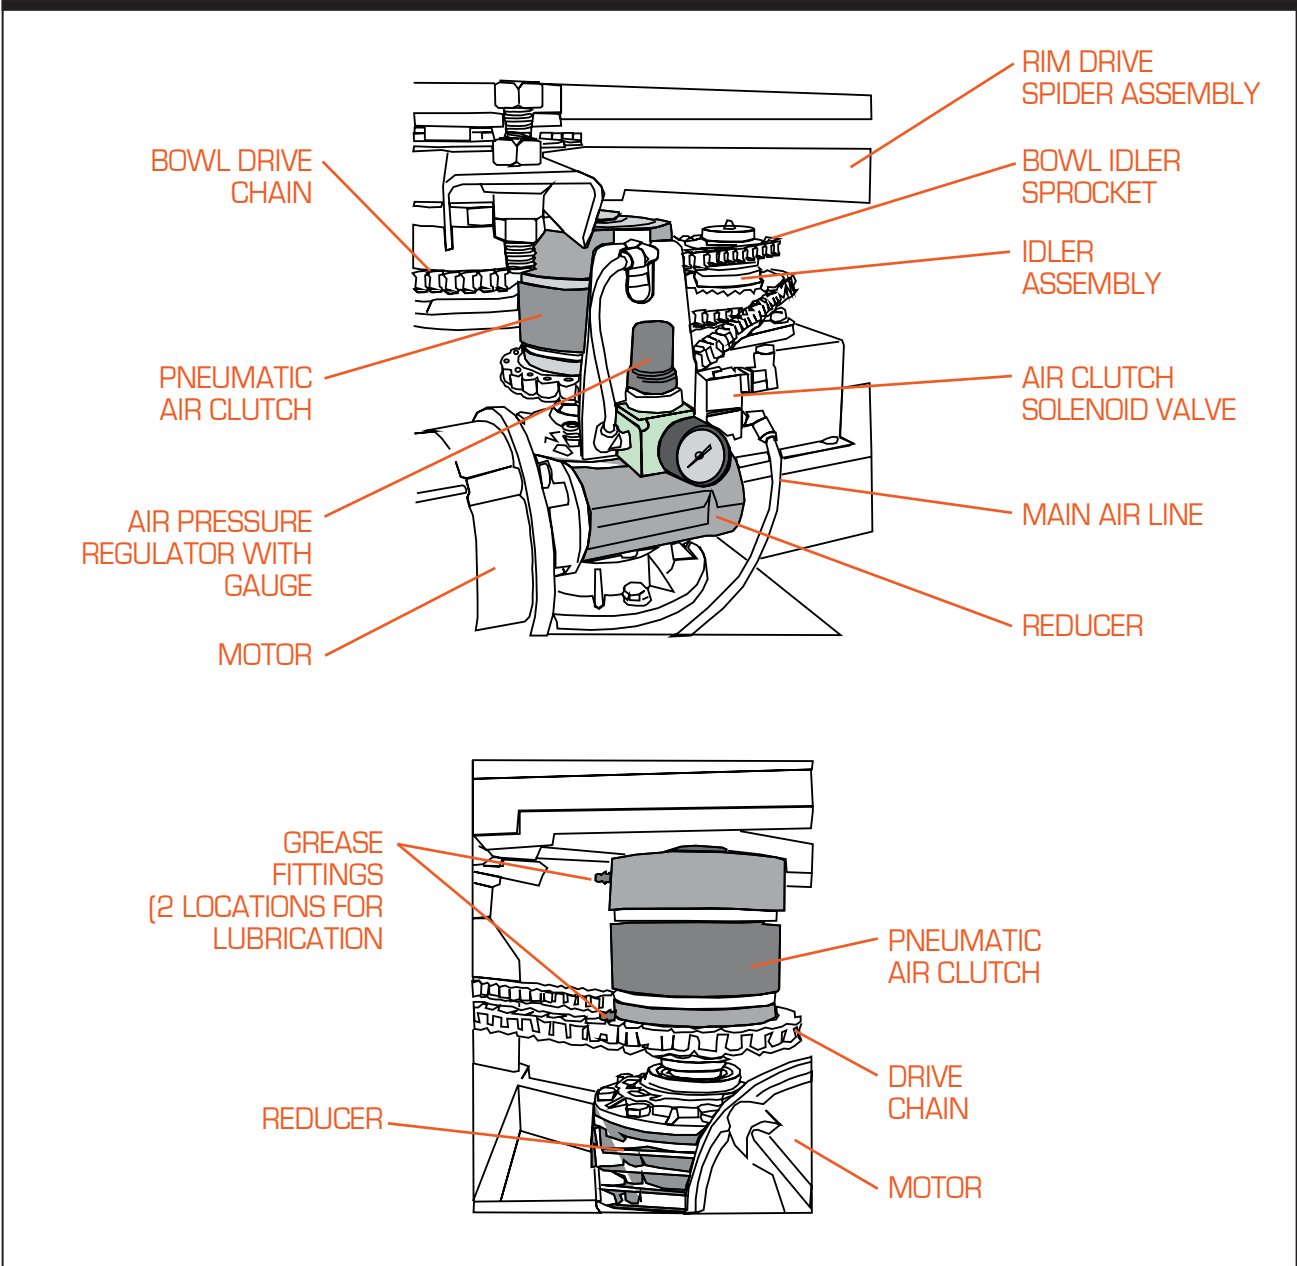

Figure 4-1. FS-40/50 Drive Chain
Step 2—Inspect Drive Chain. Midway between the sprockets, grasp the chain and move it back and forth. You should not be able to move it more than 1" in either direction. If it moves more than 1", adjustment is required (see Figure 4-1.) If an adjustment is needed: